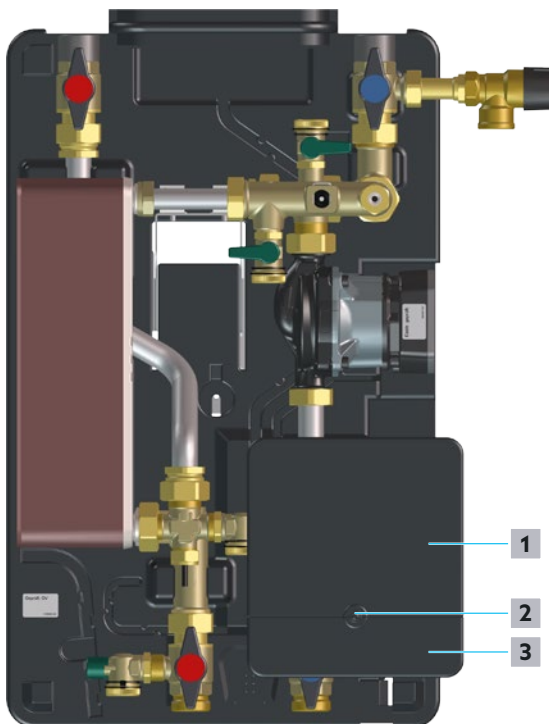

Fig. 29: Opening of the controller
- 4 Loosen the screw (position 2 in Fig. 29 on page 42) and put it aside.
- 5 Slide the connection panel cover (position 1 in Fig. 29 on page 42) upwards beyond the catches.